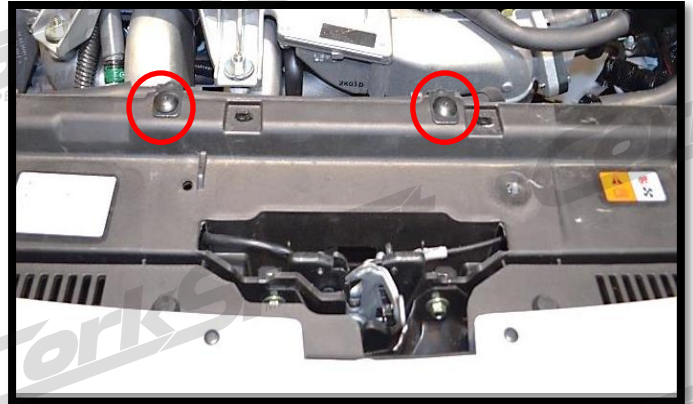

Figure 1d
e) Use a Phillips head screwdriver to remove the two (2) screw clips (red circles in Figure 1d).
- e) Use a Phillips head screwdriver to remove the two (2) screw clips (red circles in Figure 1d).